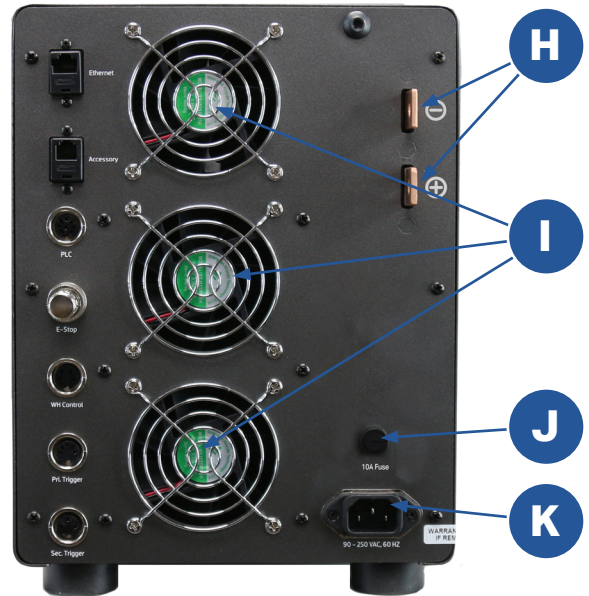

Figure 9.1. Additional plugs and connections on the Pico's back panel.
Use the Positive and Negative Weld Terminals (H) to connect the weld cables from a weld head or hand attachment to the Pico to deliver weld energy. See Figure 9.1. Make sure weld cable resistance is greater than or equal to 1 milliohm (1mΩ) of resistance.